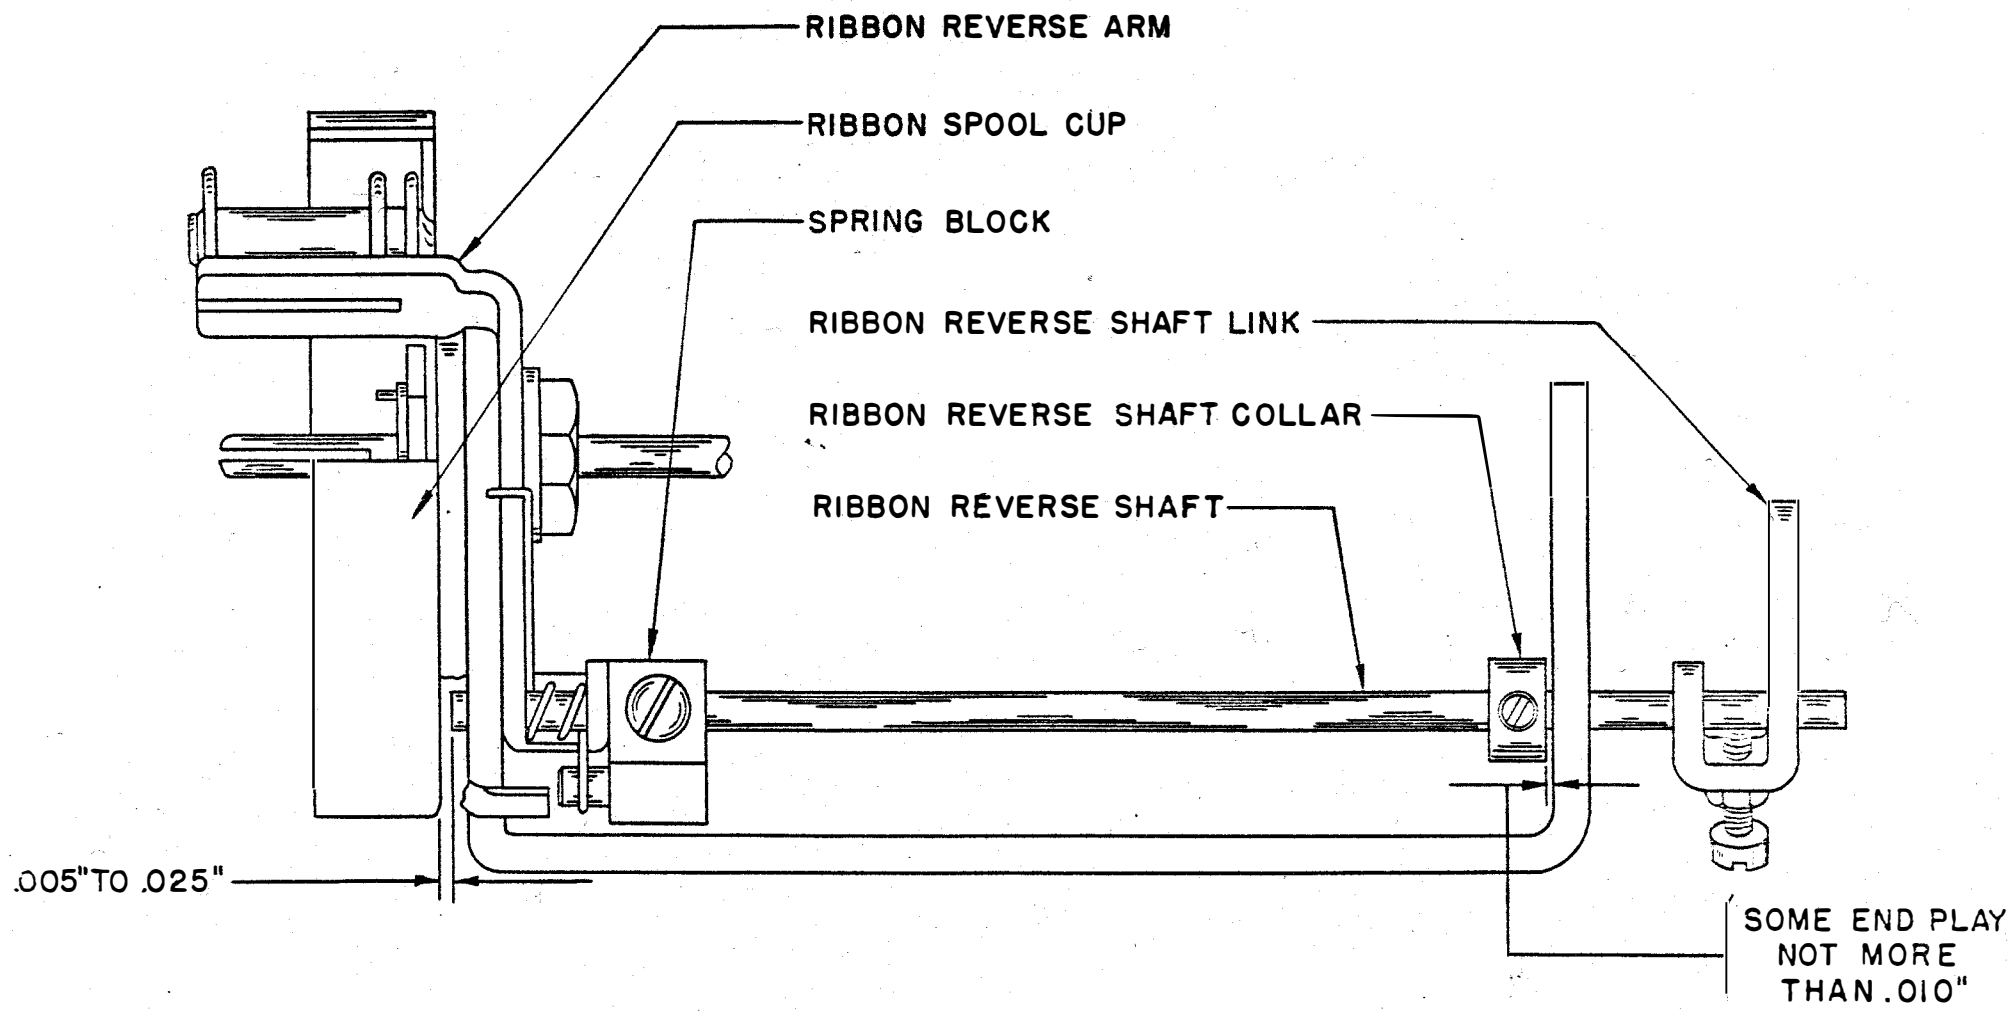

FIGURE 1
a. LEFT RIBBON REVERSE ARM SHAFT ADJUSTMENT (Figure 1)
(1) On typing units and typing reperforators there should be from .005" to .025" clearance between the rear of the left spool cup and the front end of the ribbon reverse shaft when the ribbon reverse shaft is held forward to make this clearance a minimum.
(2) On reperforator transmitters the left ribbon reverse shaft should be set flush with the front of the ribbon spool bracket.
(3) To adjust, loosen the set screw of the spring block, and if necessary, the set screws of the ribbon reverse shaft collar and link. Position the shaft while holding the ribbon reverse arm against the ribbon spool bracket and the spring block against the reverse arm. Tighten the spring block set screw.
b. RIBBON REVERSE ARMS SHAFTS COLLAR ADJUSTMENT (Figure 1)
Refer to Figure 1 for position and number of contacts which apply in the following adjustments for FRXD15.